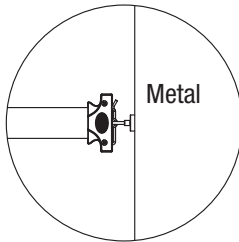

Figure 2
2. The tape can be locked on a metal wall through the appropriate magnet (fig.2)